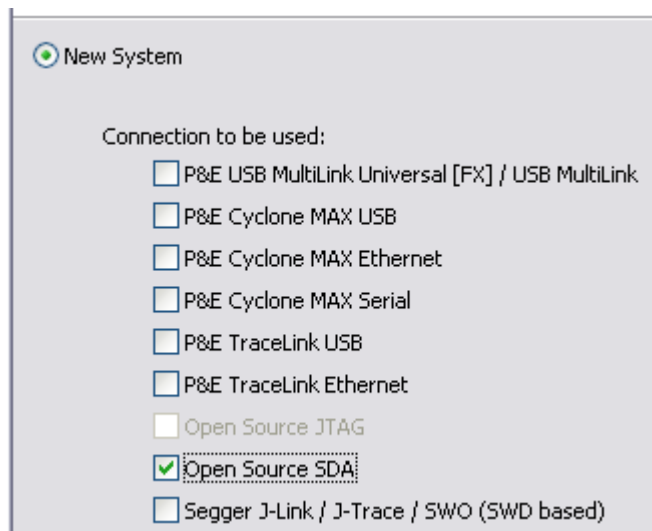

Figure 6. Selecting connection
4. The following step lets you choose the connection to be used. The Freedom – KL25Z board uses the Open source SDA connection and this must be selected as Figure 6 explains. Click “Next >” to go on.